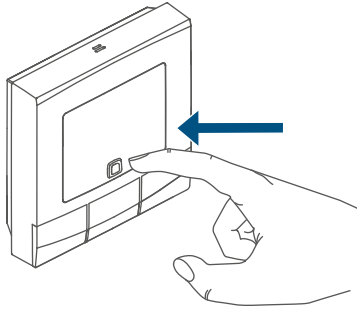

Figure 6
- Select the menu item “Add device”(see figure 6).
- Open the battery compartment (G) using a slotted screwdriver to loosen the wall mounting plate (→see figure).